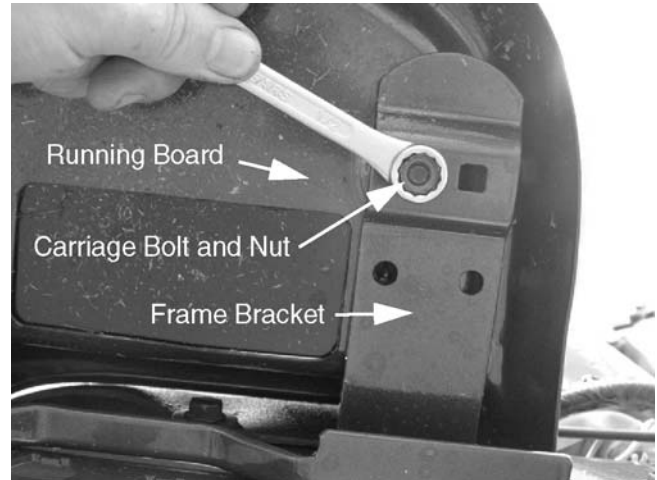

**Figure 11-42**
7. Remove the four bolts that secure the seat bracket and rear fenders to the frame using a 1/2" wrench. See Figure 11-42.